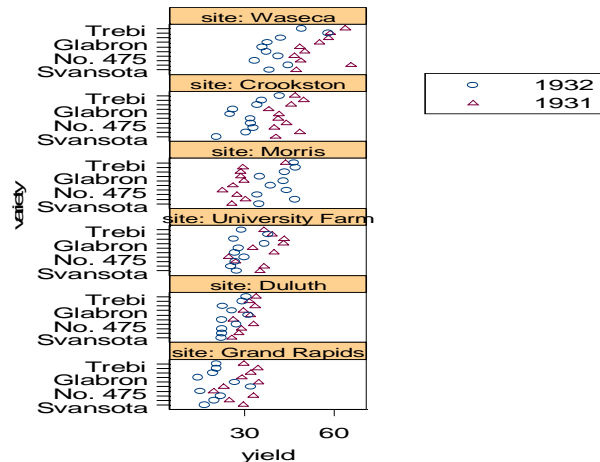

Figure 3.42: Formatted Trellis plot of barley yields for 1931 and 1932.
- Click **OK**. Notice that the legend has been updated to reflect the new symbol styles. Your final Trellis plot should look similar to the one shown in Figure 3.42.
Now examine your graph to find the long-undetected discrepancy. It appears in the Morris panel. For all other sites, 1931 produced a significantly higher overall yield than 1932. The reverse is true at Morris. But most importantly, the amount by which 1932 exceeds 1931 at Morris is similar to the amounts by which 1931 exceeds 1932 at the other sites. Either an extraordinary natural event, such as disease or a local weather anomaly, produced a strange coincidence, or the years for Morris were inadvertently reversed. More Trellis graphics, a statistical modeling of the data, and some background checks on the experiment led to the conclusion that the data are in error. But it was a Trellis graphic, such as that created in Figure 3.42, that provided the “Aha!” that led to the conclusion.